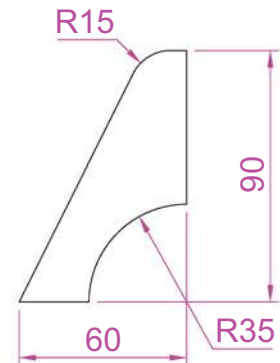

Fig. 18.12 Third example UCS – outline for 3D model
2. Construct the outline Fig 18.12 and extrude to a height of 120.